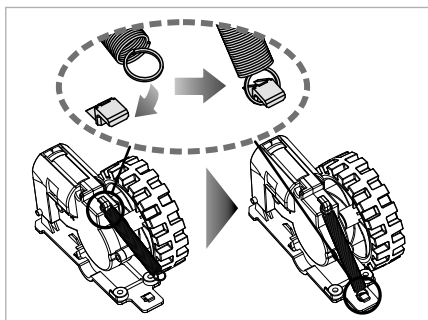

Fig. 24
- 5) Fasten the spring to the wheel holder and to the wheel cover **19/35** (see Fig. 24).